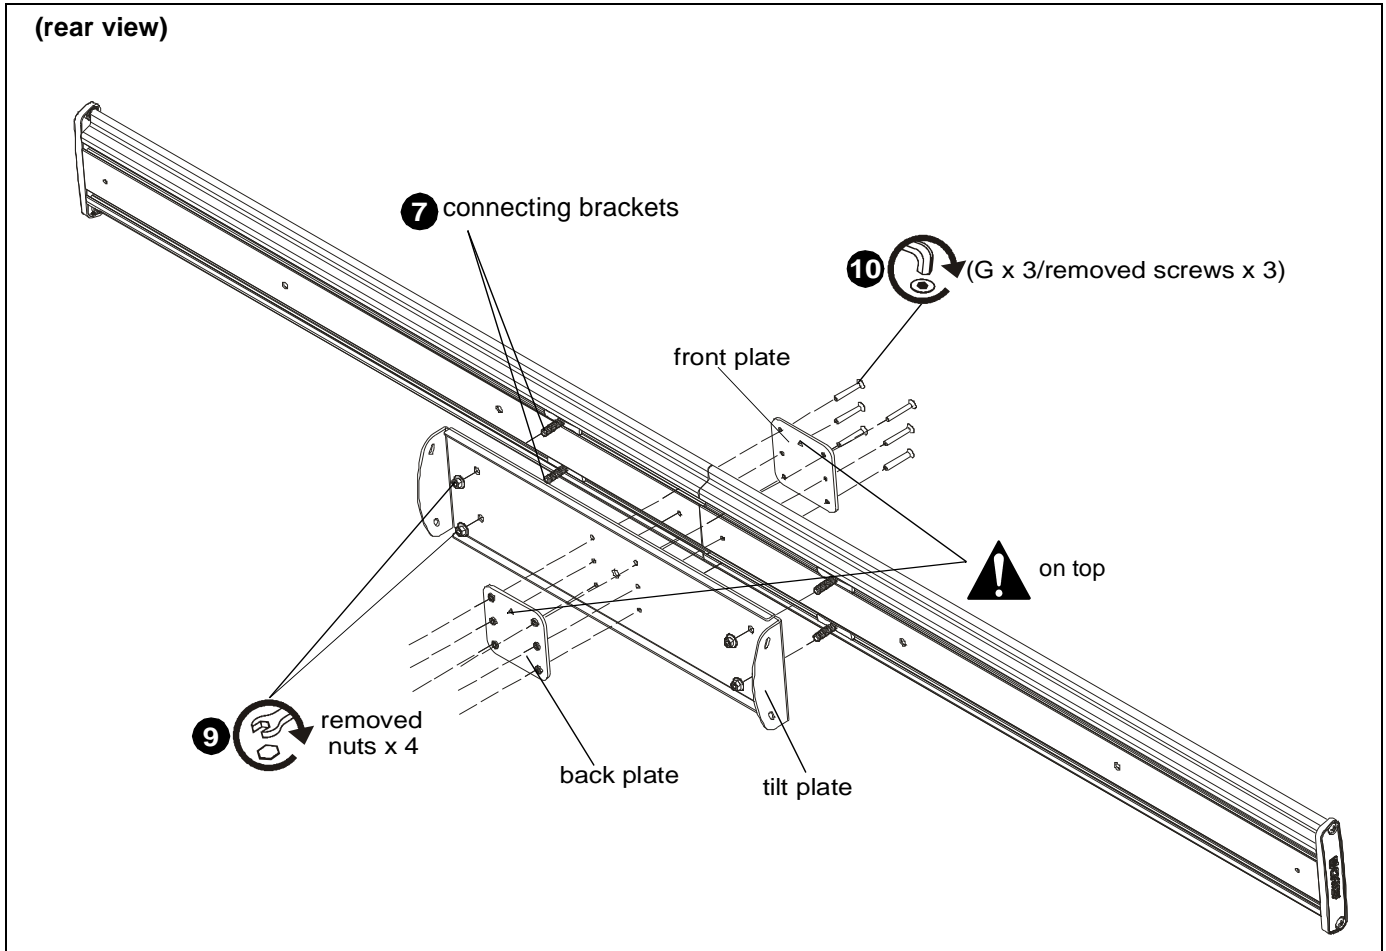

Figure 5
7. Slide two of four connecting brackets from XPA1U/XFA1U head assembly into corresponding groove on FCA624 interface. (See Figure 5)
8. Align four connecting brackets with outside four holes on tilt plate. (See Figure 5)
9. Use four nuts removed in Step 4 to secure tilt plate to new head assembly. (See Figure 5)
10. Install six #10-24 x 1 1/2" flat head cap screws (G) and removed screws through front plate, new head assembly, tilt plate and back plate to create complete head assembly. (See Figure 5)
**IMPORTANT ! :** Make sure back plate and front plate are reassembled correctly. The triangles must be at the top when they are reattached! (See Figure 5)